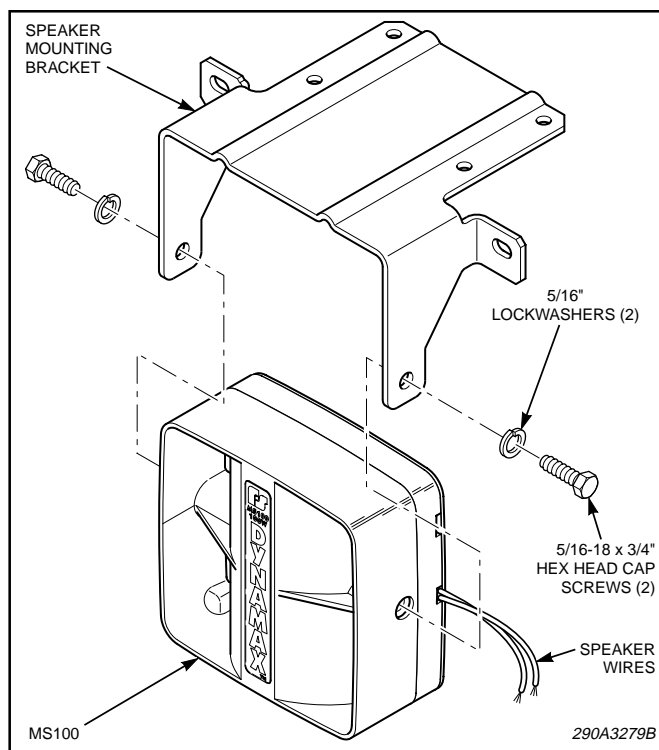

Figure 2.
3. See figure 2. Assemble the bracket to the speaker using the bolts and lockwashers supplied. Adjust the front of the speaker so that it is parallel with the leading edge of the mounting bracket, and tighten the bolts securely.